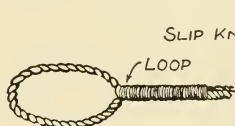

FIG. 242.
**The Bow-string.** — A cord with as little elasticity as possible should be used for this. If you care to spend the money for it, a good cotton string can be purchased from a dealer in archery goods for twenty-five cents. With a home-made bow-string, a loop should be made in one end and bound with thread, as shown in Fig. 242. Slip the loop over the upper notch, bend the bow until the centre of the string is about five inches away from the handle, and attach the loose end to the lower notch by means of a slip-knot similar to that shown in Fig. 243.